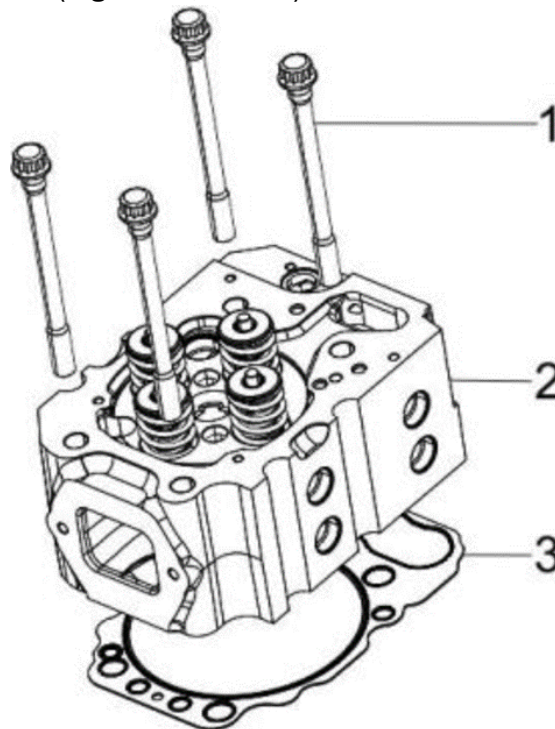

Figure 62. Cylinder Head Assembly
6. Lift the cylinder head away from the cylinder block (Figure 62, item 2). Discard the cylinder head gasket (Figure 62, item 3).